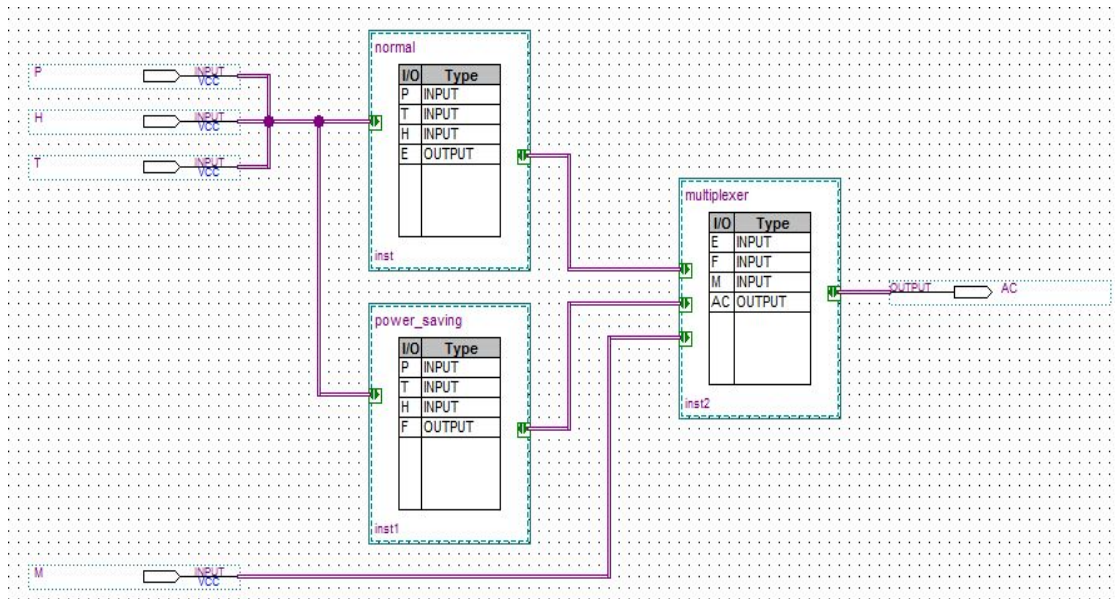

Figure 2: Final Layout of *Lab4step2*.
- Next, create the blocks that would represent the A/C components. Click on the block tool from the upper toolbar (see Figure 2). Left click anywhere on the blank block diagram file and drag your mouse. Repeat this process 2 more times. The three blocks would represent the components of your A/C system. Right click on the 1st block and click **Properties**, rename the block *normal*, click on I/O tab and enter P,T,H as inputs and E as the output. Repeat the same step for the other blocks. Make sure that the naming convention is same as mentioned in the problem statement above.
- Enter 4 inputs pins (P, H, T, M) and one output pin (AC) in the design file.